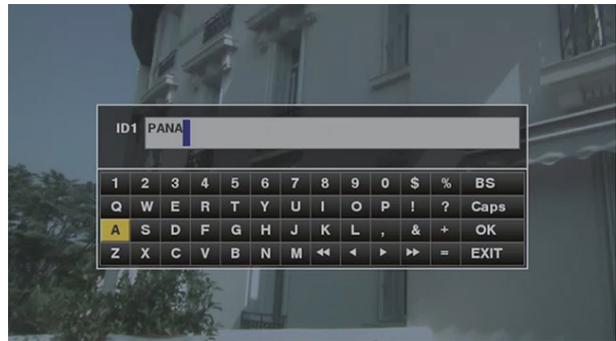

Fig. 2
- 3 Use the jog dial button (or cursor buttons  $\Delta/\nabla/\leftarrow/\rightarrow$ ) to select the desired characters. (Fig. 2)